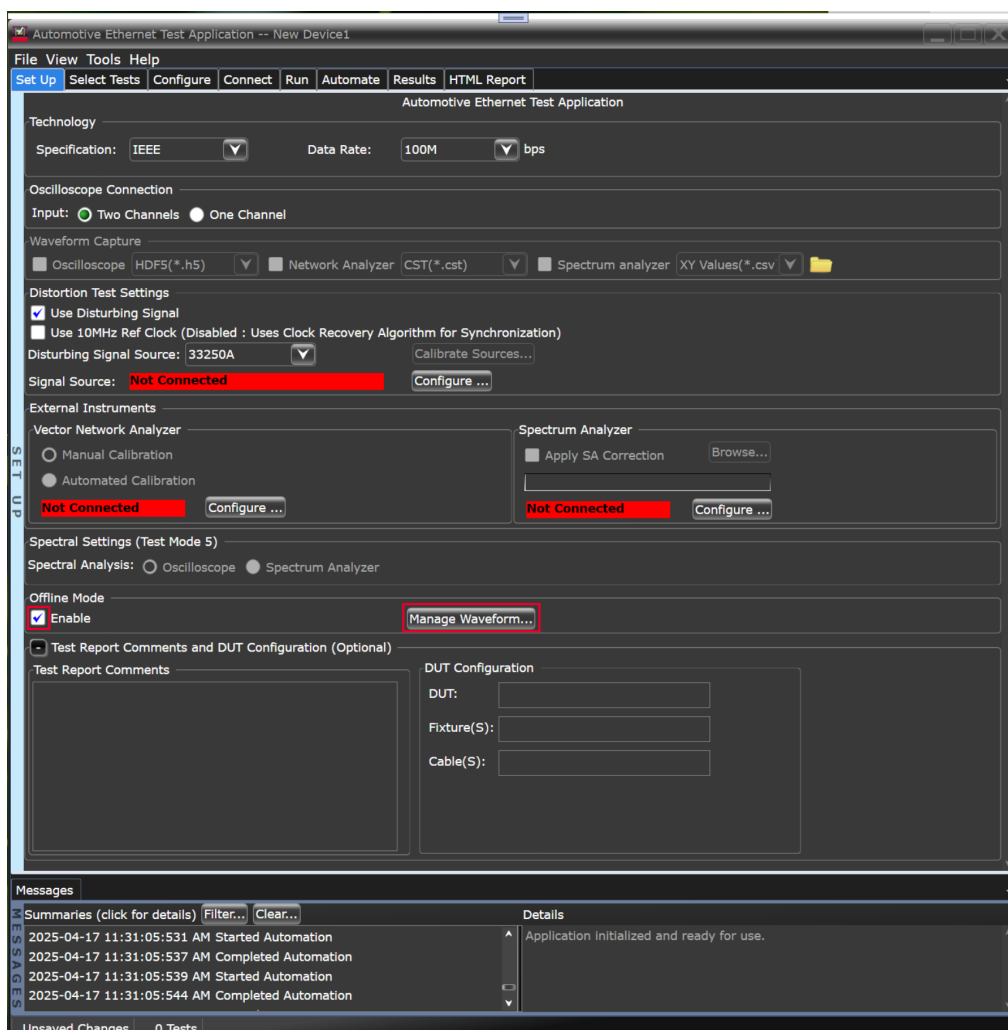

Figure 11-48 Enable the Offline Mode
- 1 Click **Manage Waveform...** as shown in Figure 11-48. The **Offline Waveform** dialog box appears.